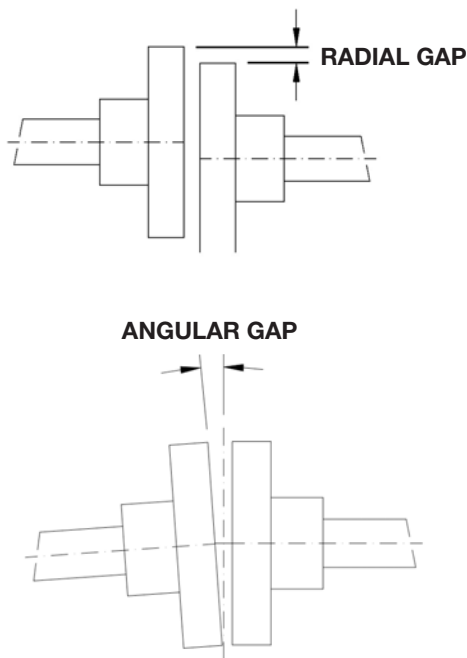

Figure 10-1: Parallel and Angular Misalignment Measurements
- The complete motor assembly is approximately positioned to align the coupling(s) with the driven equipment. Parallel and angular runout is measured and the motor assembly position adjusted to achieve the values required by the coupling manufacturer or driven equipment. See Figure 10-1.